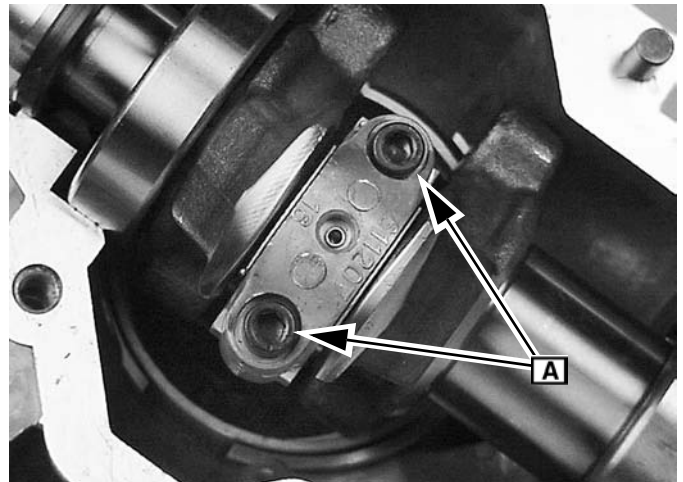

Fig. 26
4. Carefully remove the cap screws **A** (Figure 26).